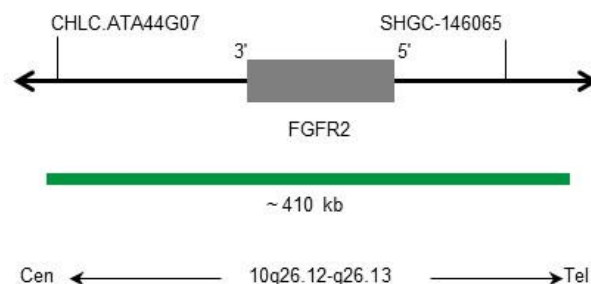

Fig. 1: SPEC FGFR2 Probe map (not to scale)
- Digoxigenin-labeled polynucleotides (~1.1 ng/ μ l), which target sequences mapping in 10q26.12-10q26.13* (chr10:123,080,085-123,492,398) harboring the FGFR2 gene region (see Fig. 1).